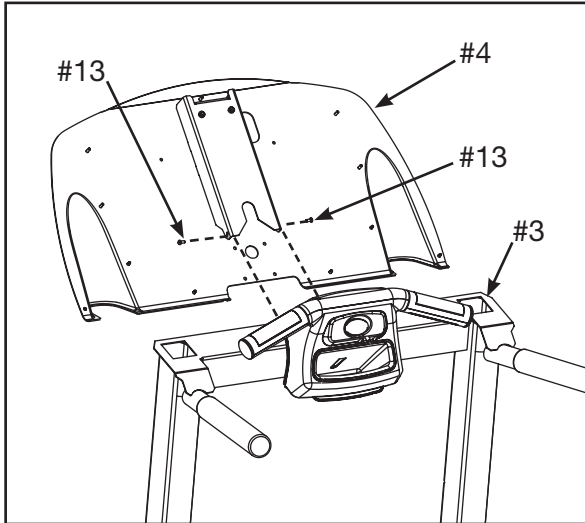

Figure 5
**B.** Place the console back (#4) in the correct position on the upright assembly (#3). See Figure 5.
**C.** Using a Philips head screwdriver install two screws 8-32 x .38" (#13) to hold the console back (#4) in place. Do not fully tighten at this time. See Figure 5.